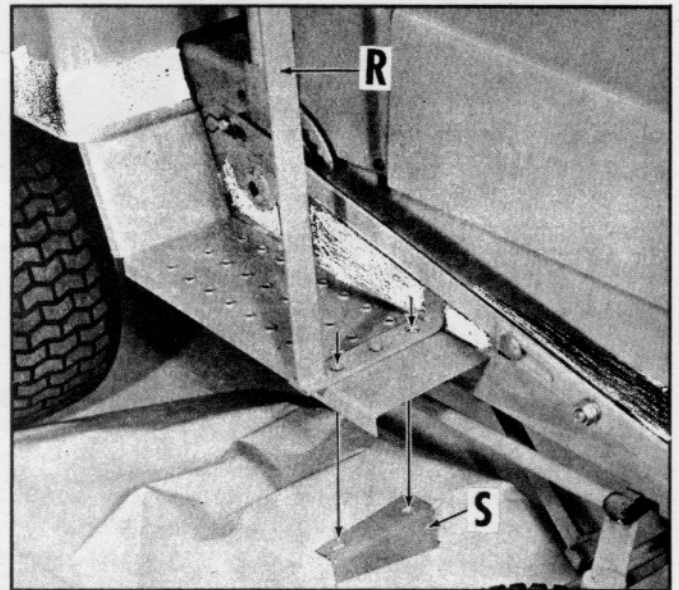

Fig.18
Place crank rod support (R) over front three holes on foot rest. Align mounting bracket (S) under foot rest in the position as shown (Fig. 18). Insert 1-1/2 flat washer onto two 1-1/4 hex. head bolts; thread bolts down through mounting bracket (S). Secure with 7/8 flat washer, 3/8 med. lock washer and hex. nut.